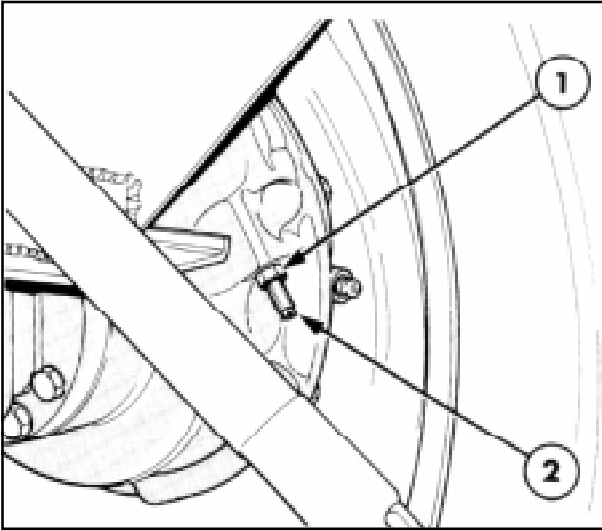

Figure 6
1. Loosen the adjusting screw lock nut on one brake and tighten the adjusting screw fully, see Figure 6. Repeat on the other brake.
6. Loosen, the adjusting screw Figure 6, by 4 flats